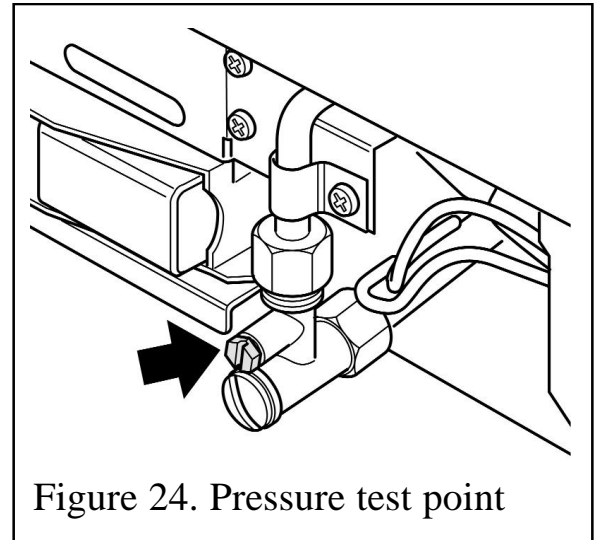

Figure 24. Pressure test point
1. Check the inlet pressure by fitting a pressure gauge at the test point. The test point is on the inlet 'T' connector (See figure 24). Check the pressure with the appliance alight and set at maximum output.